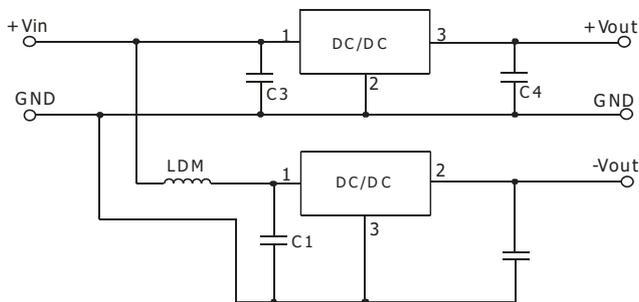

Fig. 3 Positive and negative output application circuit
- When using configurations as shown in figure 3, we recommended to add an inductor (LDM) with a value of up to 10μH which helps reducing mutual interference;
- To further reduce the output ripple and noise, we suggested the use of a "LC" filter at the output terminals, with an inductor value (L) of 10μH-47μH.